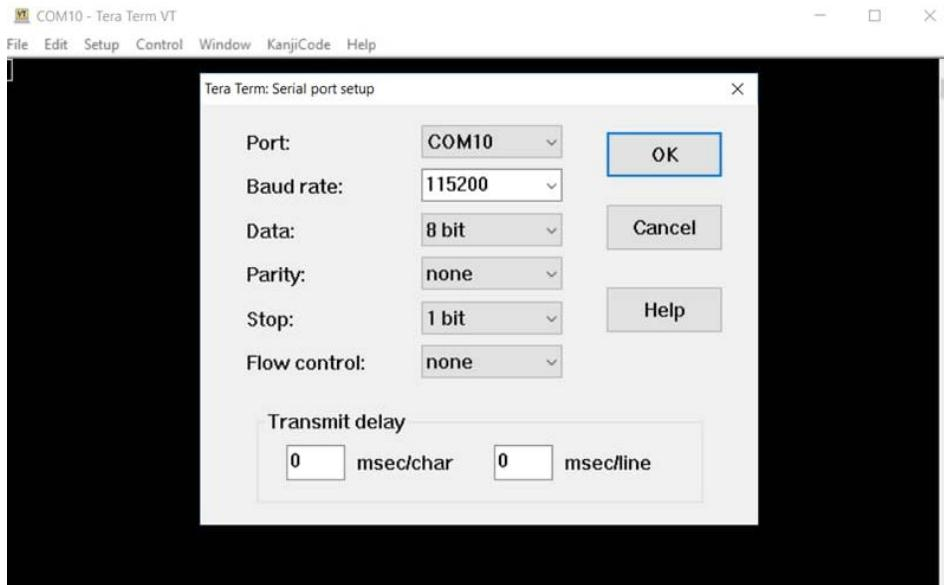

Figure 11. Displays 115200bps baud rate selected in Tera Term.
10. Set the baud rate to 115200bps by navigating to Setup/Serial Port. This opens a new configuration window. Select 115200 in the Baud rate pull-down menu, as shown in Figure 11.